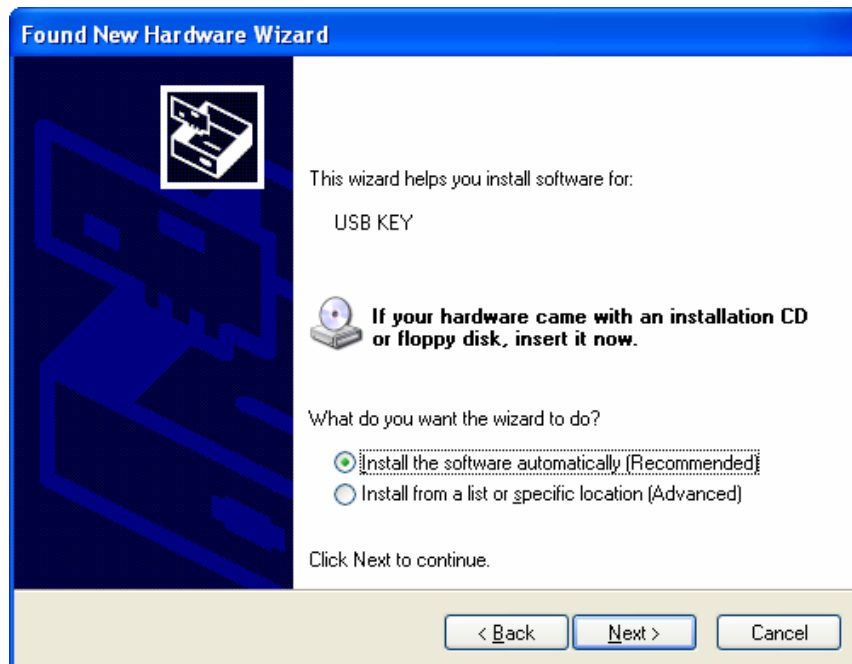

Figure 25
14. The next window in the Security Key Setup informs the user that the wizard will help install the necessary software for USB KEY. Refer to Figure 25. In this window make sure the circle beside **Install the software automatically (Recommended)** has a black dot. With the Black Dot in place in the desired location, select the **Next** pushbutton to continue with the Security Key Installation.